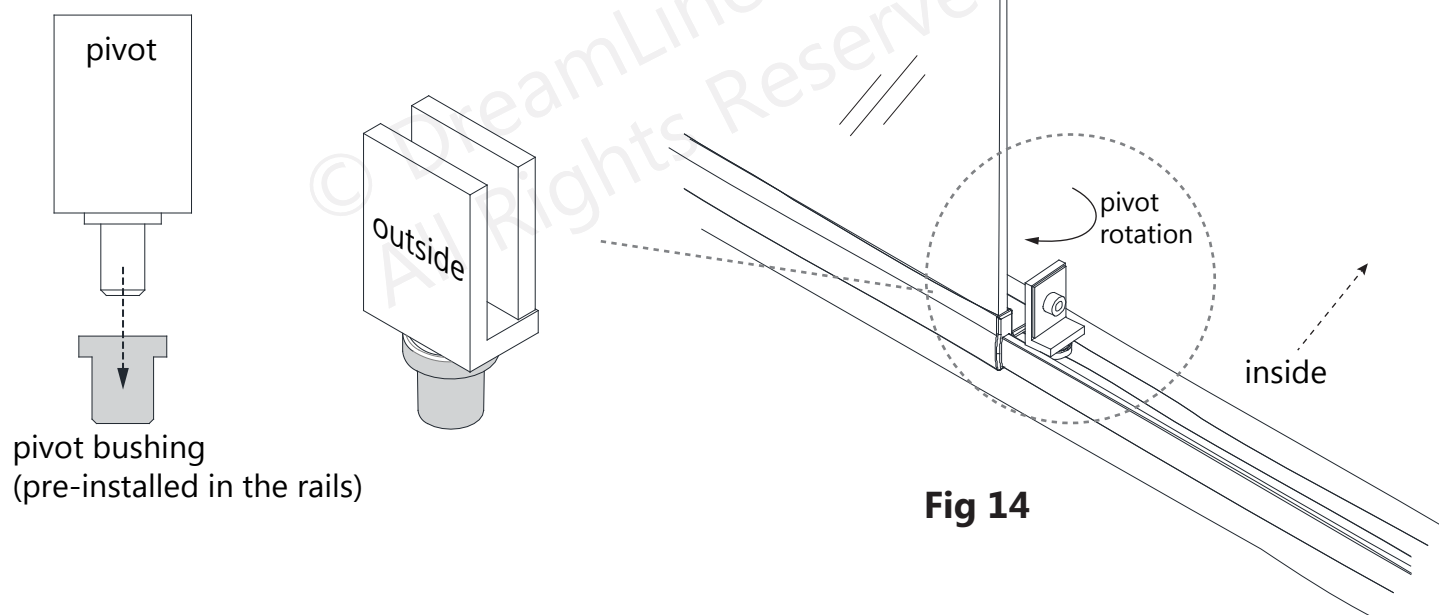

Fig 14
14. Install the **Top & Bottom Pivot Hardware (#16)** into the pivot bushings in the **Top & Bottom Pivot Rails (#15)**. **(Fig 14)**